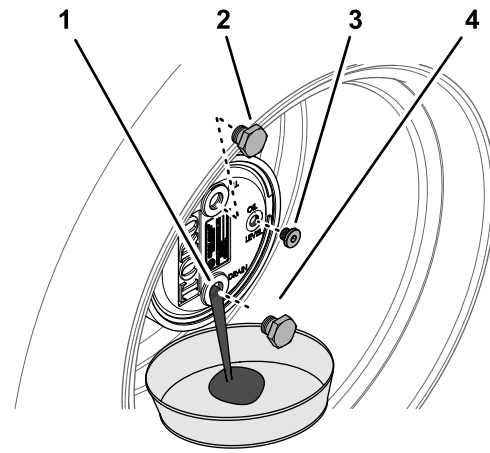

Figure 67
3. Place a drain pan under the planetary hub, remove the drain plug at the 6 o'clock position, and allow the oil to fully drain (Figure 67).
5. Install the drain plug into the drain hole of the planetary housing (Figure 67).
2. Remove the fill plug at the 12 o'clock position and the check plug at the 3 o'clock position (Figure 67).